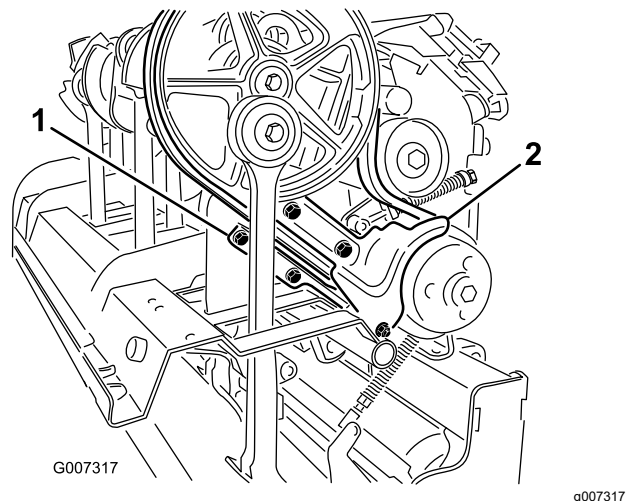

Figure 37
3. Remove the fasteners securing the dirt shield and the lower belt shield (Figure 37). Remove the dirt shield and the lower belt shield.